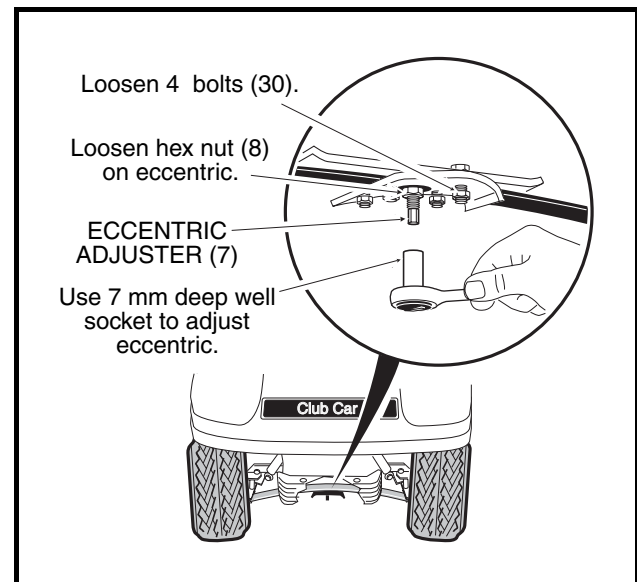

Figure 7-17 Adjust Camber
2. Loosen, but do not remove, the four bolts (30) that secure the leaf spring (6) to the bottom spring plate (29) (**Figure 7-22, Page 7-19**). See also **Figure 7-17, Page 7-14**.
3. Loosen, but do not remove, the hex nut (8) on the adjustment eccentric (7) (**Figure 7-17, Page 7-14**) in the center of the spring. **See also Figure 7-22, Page 7-19.**
4. Use a 7 mm deep well socket to rotate the eccentric (**Figure 7-17, Page 7-14**).
6. Tighten the hex nut (8) on the adjustment eccentric (7) to 10 ft-lb (13.5 N·m) (**Figure 7-22, Page 7-19**) **See also Figure 7-17, Page 7-14.**